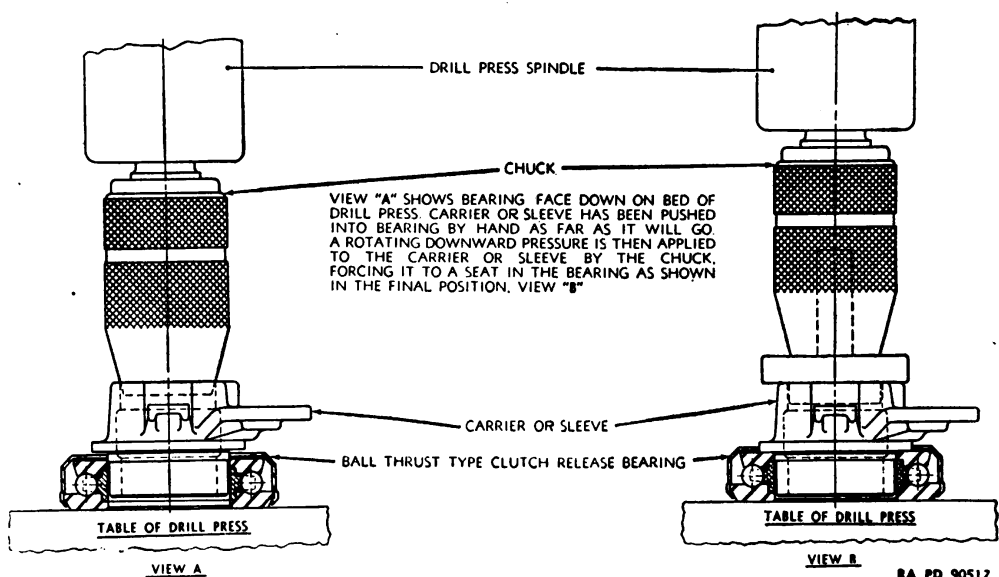

Figure 58. Assembling ball thrust clutch release bearings on carriers or sleeves.
c. Banded ball thrust bearings, where the rings are inseparable and are tight either on the shaft or in the housing, should have one ring slowly rotated while being pressed into position. On small assemblies a drill press may be used. (See fig. 58.)
22. Assembly on Carriers or Sleeves (fig. 58)
f. With the spindle turning, feed the chuck into bore of bearing carrier or sleeve (view A, fig. 58), until bearing is completely seated, as shown in view B, figure 58. If chuck diameter is too small or too large, use a small shanked pilot clamped in the chuck and piloting the carrier or sleeve similar to one shown in view B.